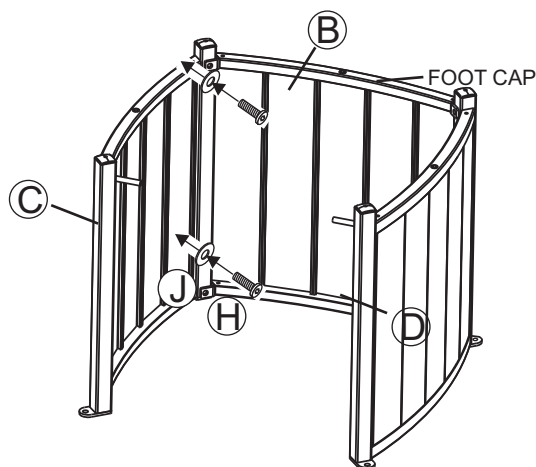

Figure 1
- 1 Attach side panel-1 to the back panel by using two 1/4"x20 mm bolts and washers as shown in **Figure 1**. Guide the bolts through the holes in the back panel into the pre-drilled holes in side panel-1. **Hand tighten only 2-3 turns.** Repeat for side panel-2.